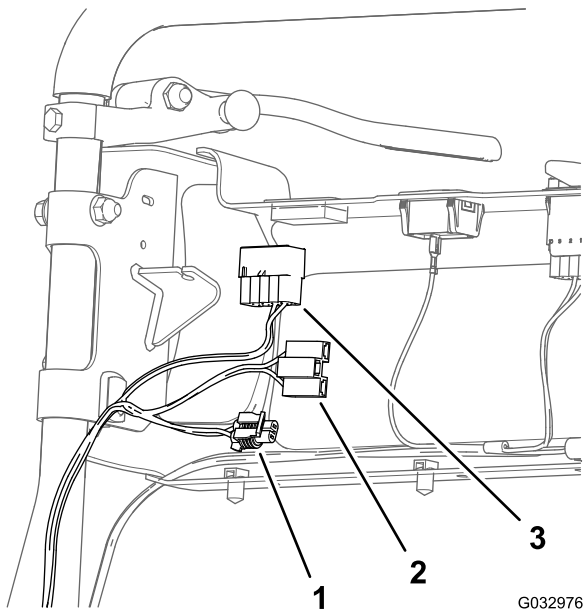
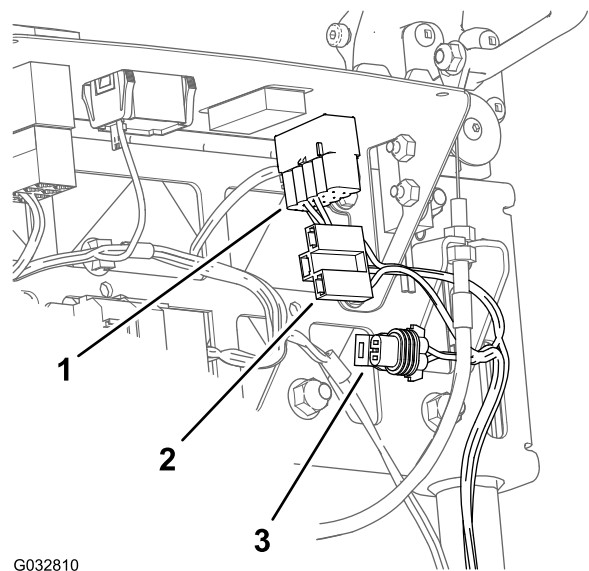

Figure 13
Figure 14
- Use the 3-socket connector when installing the optional **Wireless-Hour Meter Kit** (Figure 13 and Figure 14).
- Use the 2-socket connector light harness interconnect when installing the optional **LED Light Kit** (Figure 13 and Figure 14)